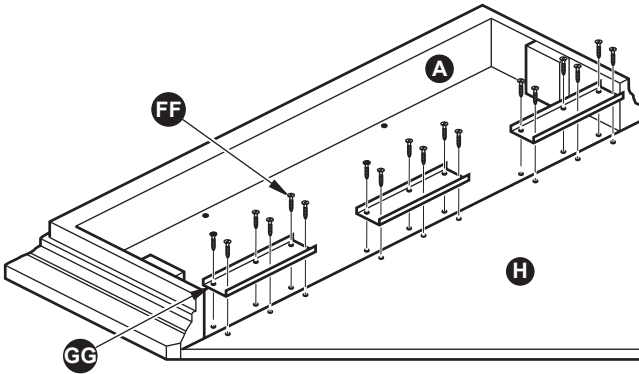

Figure 35
8. Turn the fireplace Top Panel (A) over. Using the 3 supplied Connector Brackets (GG), attach the Mantel Top (A) to the Top Triangle Panel (H) with 18) ST4 Screw 5/8" (FF) as shown in Figure 35.